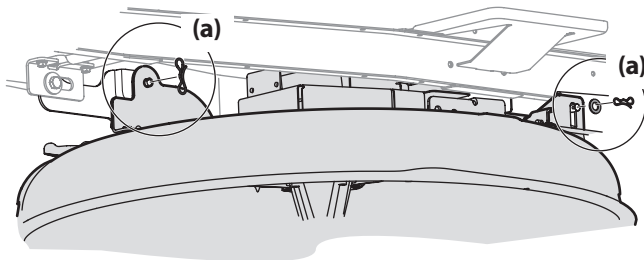

Figure 19
5. Remove the remaining bow-tie cotter pins (a) securing the deck to the tractor, as shown in Figure 19.
5. Secure the deck to the deck lift arms using two bow-tie cotter pins. See Figure 19.